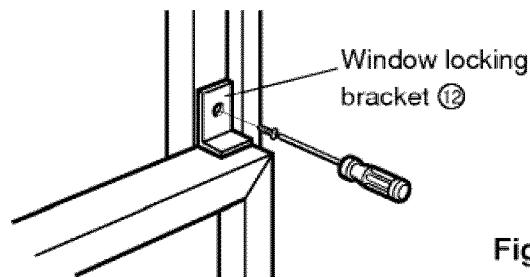

Fig. 9
- 12** Attach the Window Locking Bracket ⑫ with a Type C screw ⑦. (See Fig. 9)